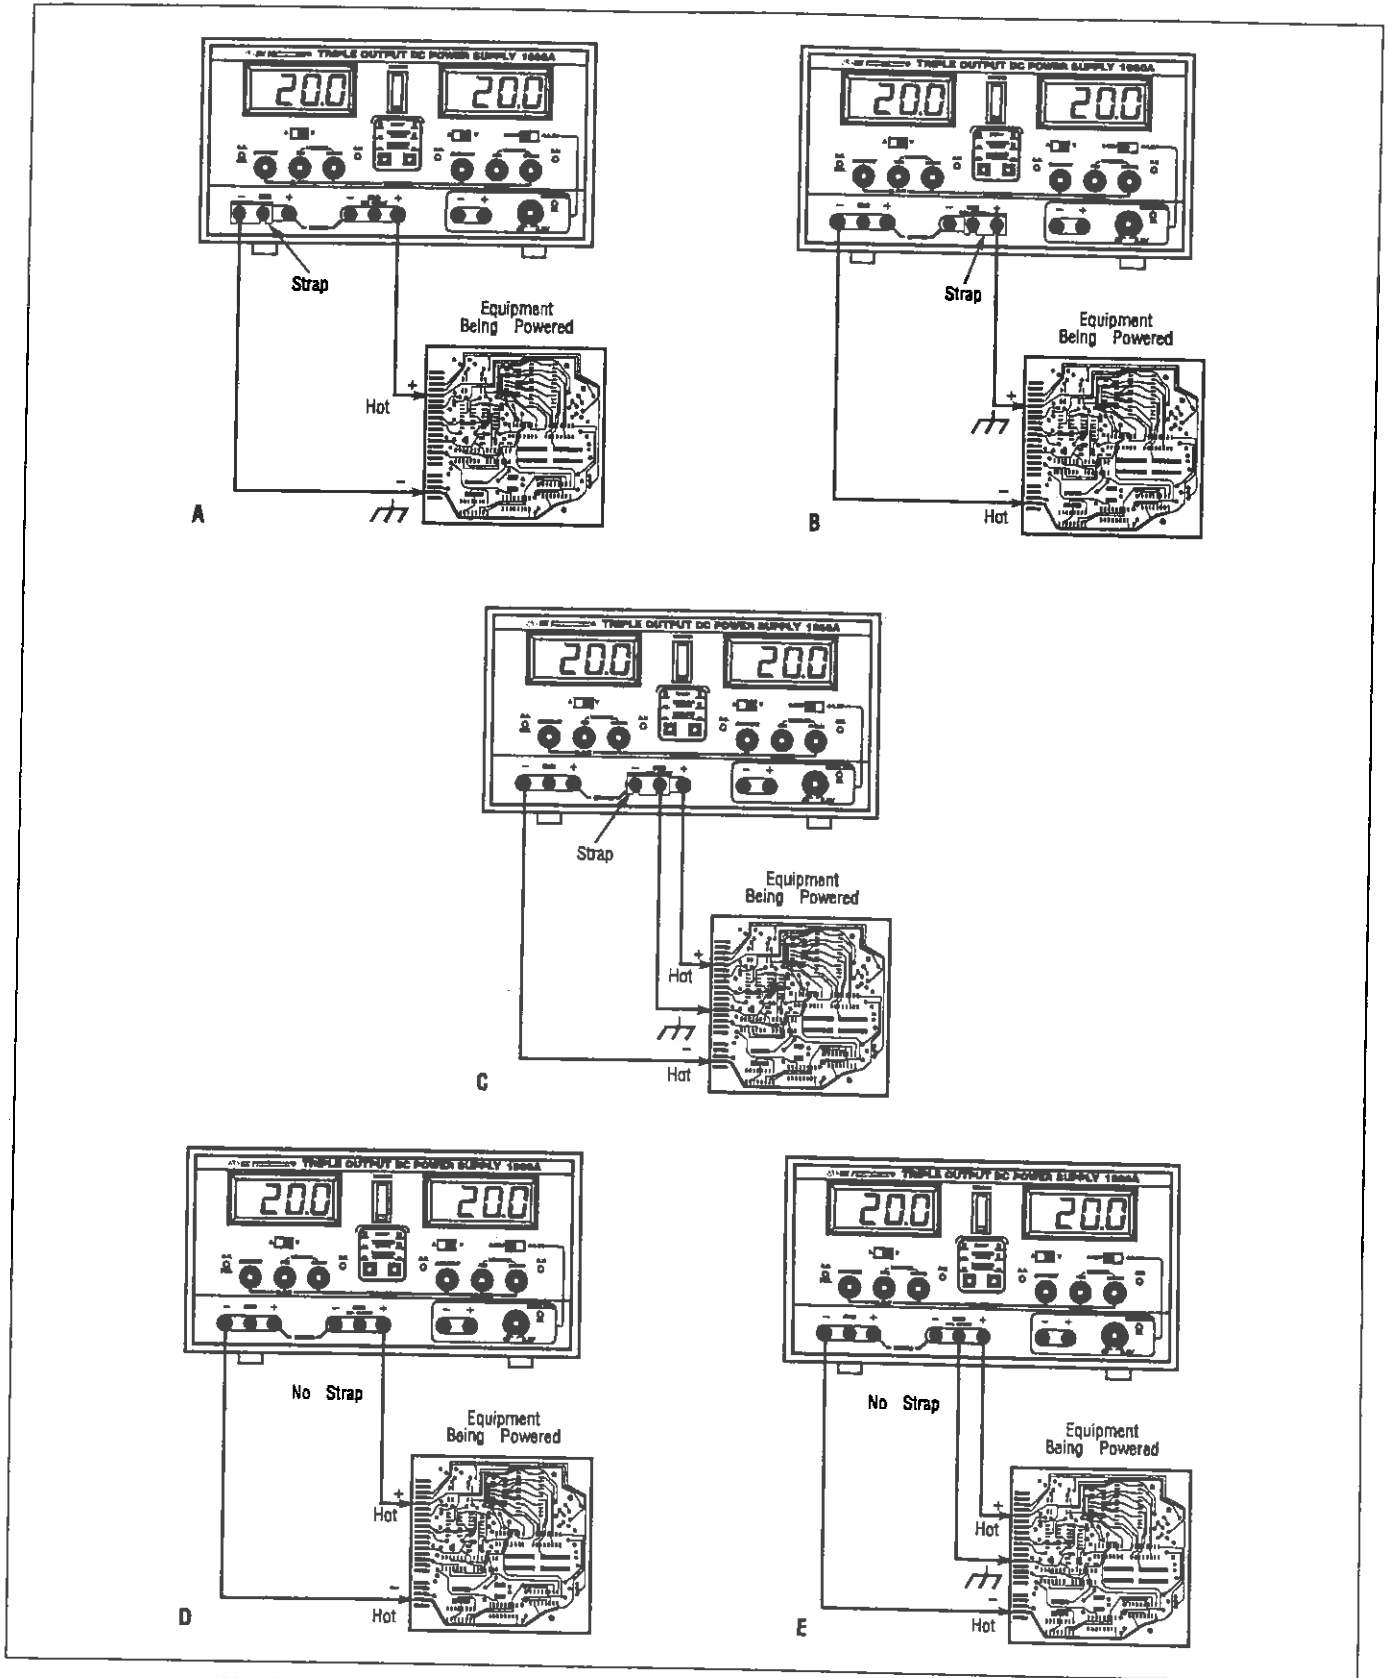

Fig 8. Series Tracking (0-to-60 V) Operation Grounding Possibilities.
8. Fig. 8 illustrates the grounding possibilities when the unit is used as a 0-to-60 volt supply.